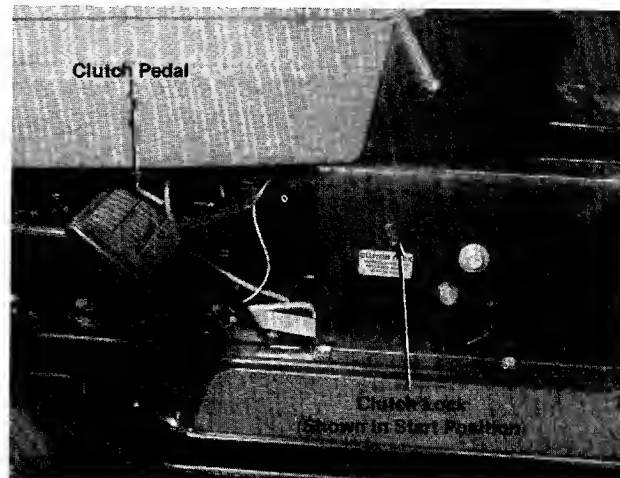

FIGURE 10.
e. **Clutch Pedal.** The clutch pedal is used to disengage the drive mechanism. Depressing the clutch pedal at any time will reduce mower speed. If depressed all the way, it will stop the mower. See figure 10.
f. **Clutch Lockout.** When the clutch pedal is depressed all the way it can be locked by placing the clutch lockout in the START position as shown in figure 10. The clutch lockout must be in this position before the engine will start.
- Step 2. Place the clutch lockout in the **START** position. See figure 10.